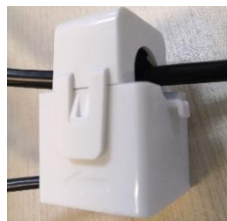

FIG.7 Abra a fivela FIG.8 Instale o CT FIG.9 Fixe o CT
1) Abra a fivela do CT, conforme FIG.7